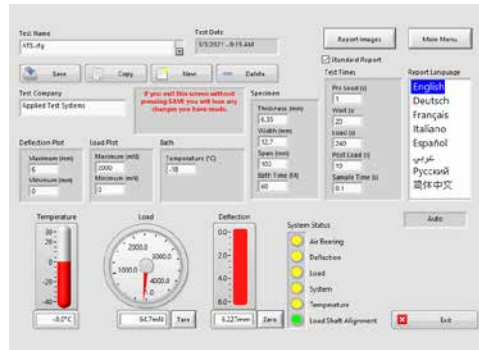

Figure E.7 - Test Setup Screen
1. To begin, select “Verification” from the Main Screen. The screen shown in Figure E.7 will display.
Test setup is used to define a BBR2s test specification as well as the type of report it will generate. When you press the SETUP button the screen shown in Figure E.7 will display.